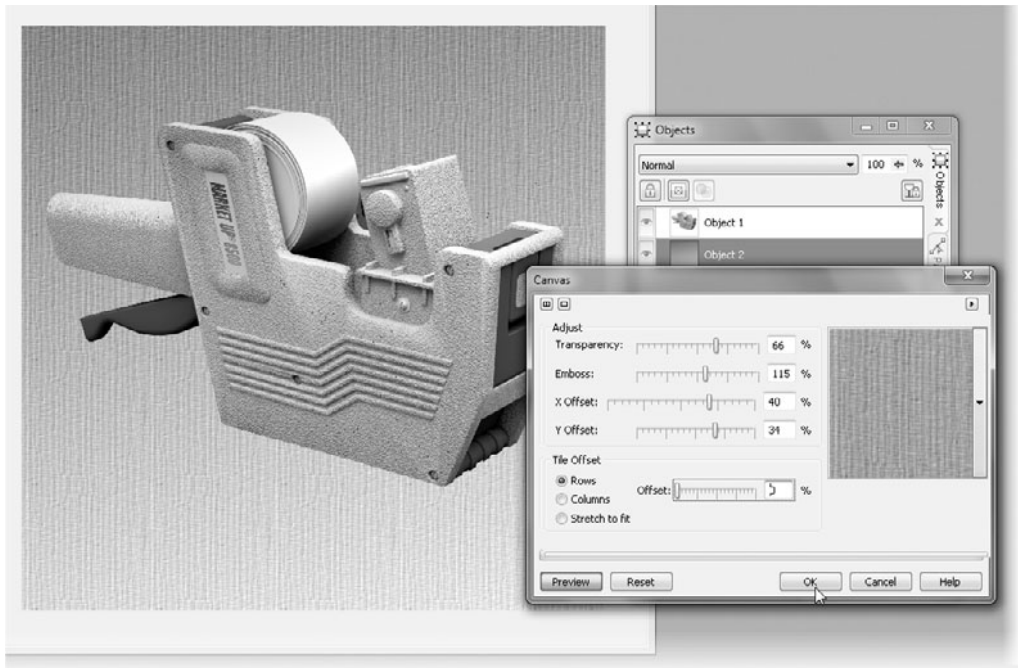

FIGURE 26-2 Apply a subtle texture effect to the fountain fill to add visual “business” to the background object.
7. Choose Effects | Texture | Canvas. In the Canvas dialog, set the Transparency to about 66% so the fountain fill isn't completely hidden by the effect, and then set the Emboss value to about 115% for a visible yet not overwhelming effect; see Figure 26-2. Click OK to apply the texture.